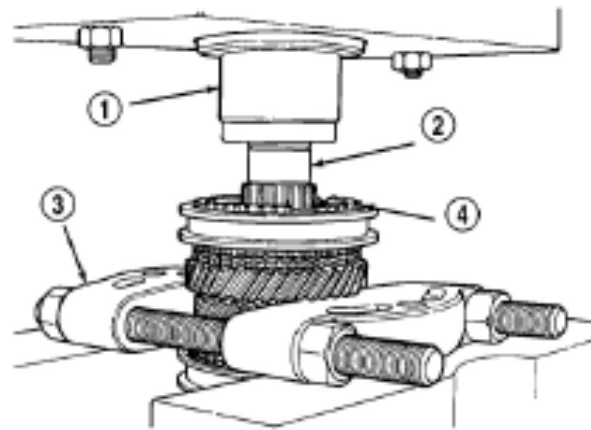

Figure 3-124 Removal of synchronizer with press
(2) Remove synchronizer and gear with a press (Figure 3-124).